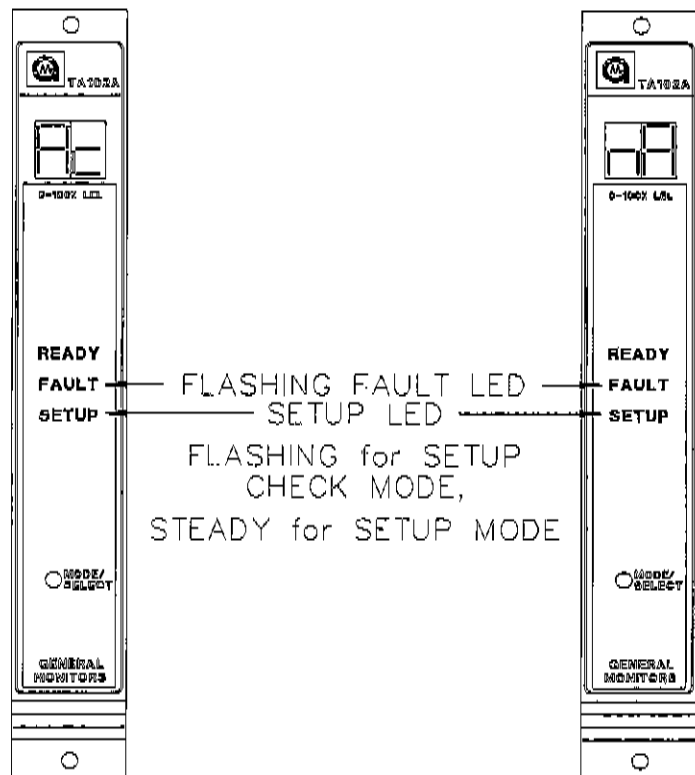

Figure 22
- After the A1 alarm options have been selected, the user will select the Fault/Inhibit option. The **FAULT** LED on the front panel will be flashing while the display indicates **Ac** or **nA** (figure 22). An **Ac** selection specifies that the Model TA102A will activate the Fault circuit while the unit is in the Inhibit Mode. An **nA** selection specifies that the Model TA102A will not activate its Fault circuit when the unit is placed in the Inhibit Mode (see section 5.3). An **nA** selection will not disable the Fault circuit, therefore, if a Fault occurs during the Inhibit Mode, the unit will activate the Fault circuit. Not Active is the factory default for this selection.